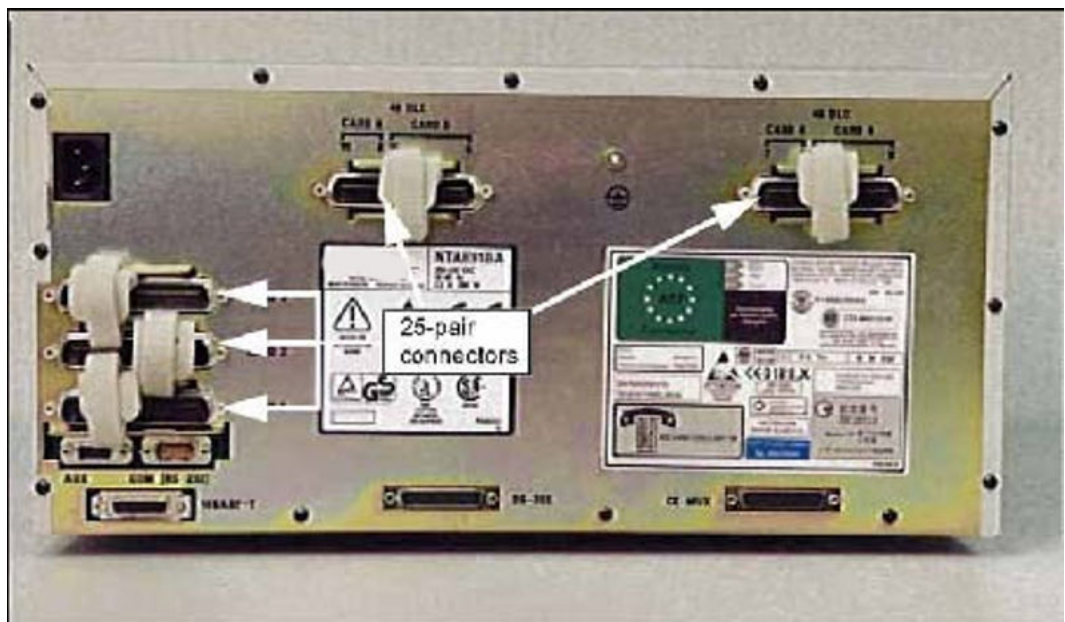

Figure 52: Chassis
2. In the chassis, connect to 15-pin DSUB connector on the back panel formerly used for the 10Base-T AUI connection. Figure 52: Chassis on page 221 shows the 10Base-T AUI connection of the chassis.